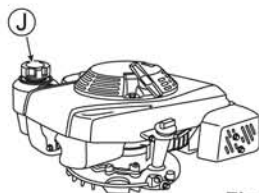

Fig. 10
1. Open Fuel tank cap (J) and refuel gasoline. Immediately wipe off with a rag if gasoline is spilt. (See Fig. 10)
2. Firmly close Fuel tank cap (J) after refueling.